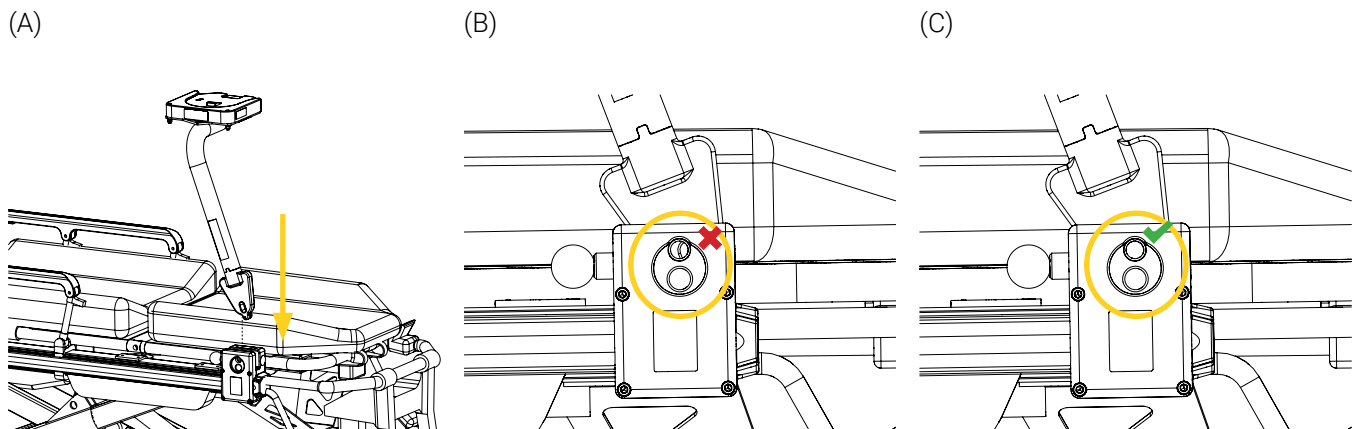

Figure 9: Installing the SAS 500 in the clamp block
2. Pull and hold the knob of the quick release mechanism of the clamp block (Figure 9 A), align and insert the triangular head of the SAS 500 in the clamp block (Figure 9 B), then release the knob (Figure 9 C).